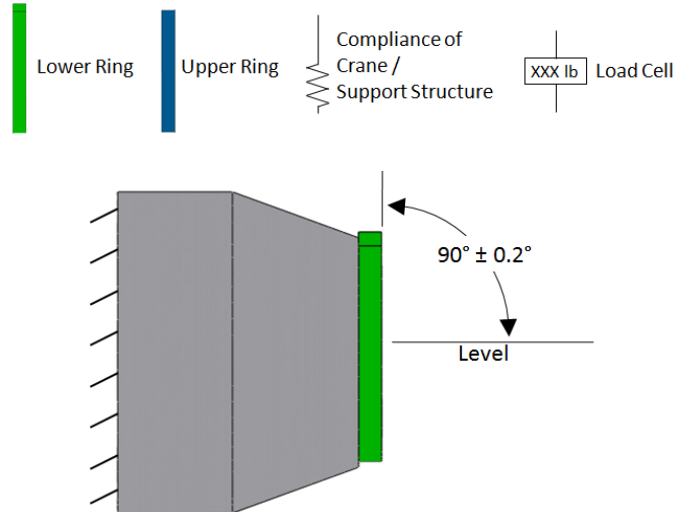
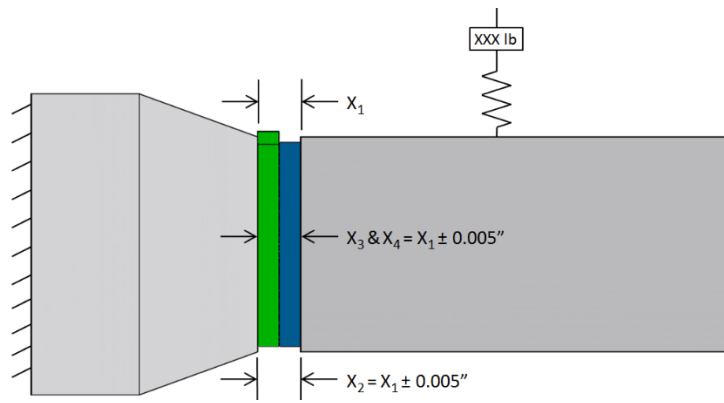

Figure 13-1: Verify Lower Ring is leveled prior to mating SV.
Figure 13-3: Verify parallelism of compressed Lightband.
13.1.2	The Lower Ring, mounted to the LV, shall be perpendicular to level within $\pm 0.2^\circ$. See Figure 13-1.
13.1.5	A load cell shall be installed in-line with the SV support structure. See Figure 13-1 and Figure 13-3.
13.1.11	<p>Slowly compress the Lightband. See Section 18.3 if using LCTs.</p> <ul style="list-style-type: none"> Continually monitor the load cell. It shall remain within 10 lb of the step 13.1.8 reading. When fully compressed, the distance between Lightband flanges shall conform to Step 8.1.15. Verify that the flange distance at the top, bottom, left and right of the Lightband are within 0.005 inch of one another. See Figure 13-3. <p>ATTENTION: An improperly aligned SV may translate (up, down, left or right) or rotate (pitch, roll or yaw) during the Stow process, requiring additional power that the Lightband motors cannot generate. Proper alignment is essential.</p>